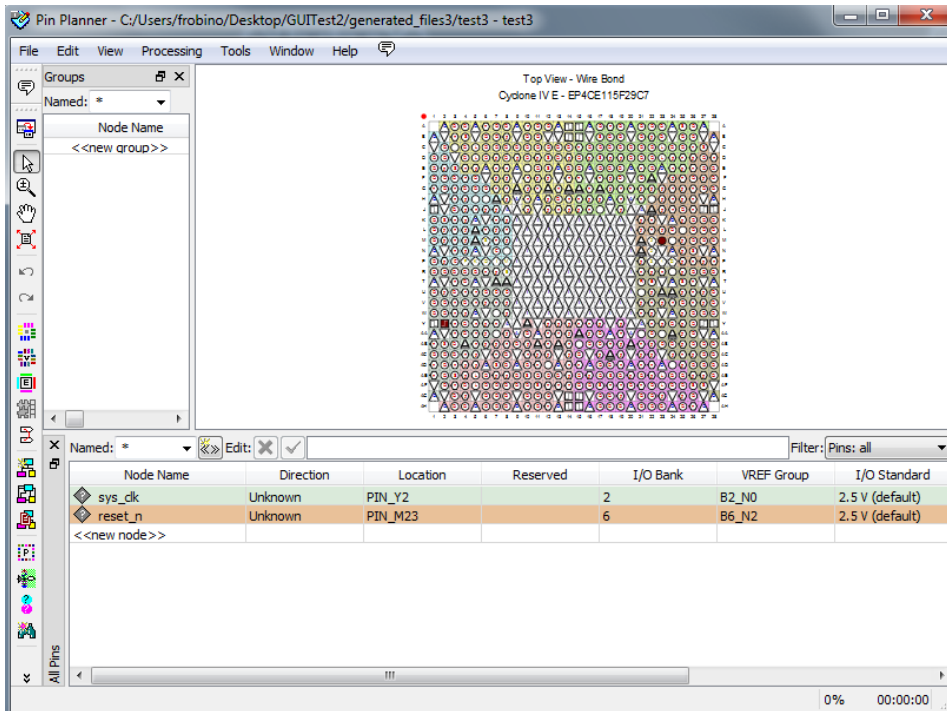

Figure 2.23.: Pin assignment has been done automatically by NSG
10. back again in the Quartus II tool main window, click on Assignment – pin planner (Figure 2.22). In this window you can notice that the pin assignment has been done automatically for you, as shown in Figure 2.23. Close this window after you checked it matches with Figure 2.23;